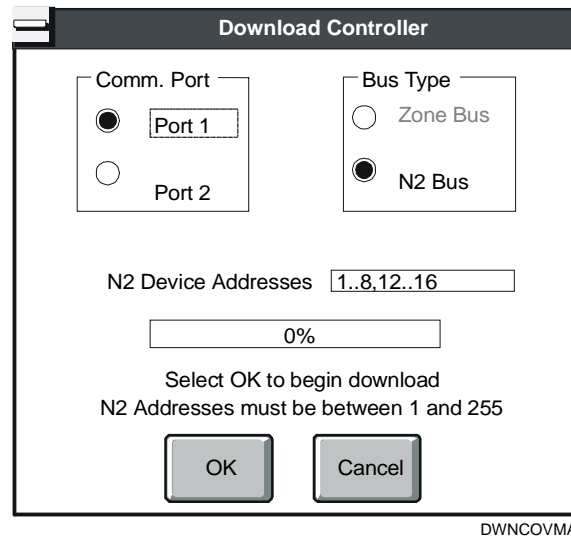

Figure 3-5: Download Controller Dialog Box for VMA
1. On the Download menu, select VMA Code (Version xxx). A dialog box similar to Figure 3-5 appears: